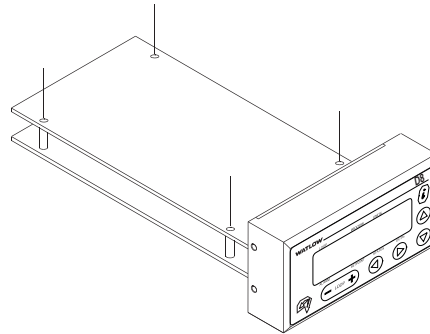

Figure 7.2 Screw Locations on PC Board
6. Unscrew the four screws at the corners of the top board and carefully unplug this board to access the bottom board. Figure 7.2 shows the screws to remove: